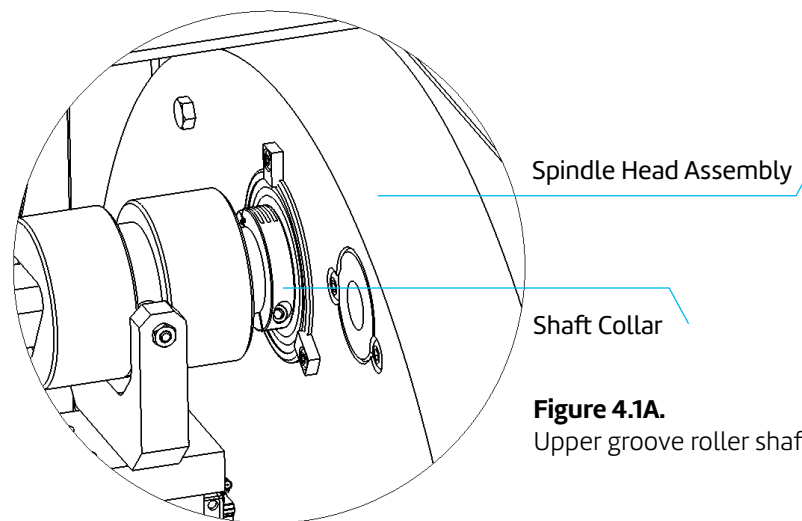

Figure 4.1A.
5. Using a $\frac{3}{16}$ " hex key (Allen wrench), remove the shaft collar that is securing the upper roller shaft to the spindle head assembly. See Figure 4.1A.